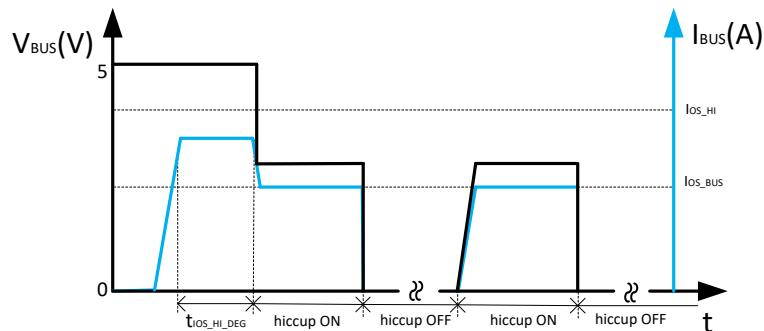

Figure 10-6. BUS Overcurrent Protection
- The second condition is the load current increases above I_{OS_BUS} but below the I_{OS_HI} setting. The device allows the USB port to output this large current for $t_{I_{OS_HI_DEG}}$, without limiting the USB port current to I_{OS_BUS} . After the $t_{I_{OS_HI_DEG}}$ deglitch time, the device limits the output current to I_{OS_BUS} and works in a constant current-limit mode. If the load demands a current greater than I_{OS_BUS} , the USB output voltage decreases to $I_{OS_BUS} \times R_{LOAD}$ for a resistive load, which is shown in Figure 10-6. If the overcurrent limit condition lasts longer than 4.1 ms, the corresponding USB channel enters hiccup mode with 524 ms of off-time and 4.1 ms of on-time. Another USB channel still works normally.